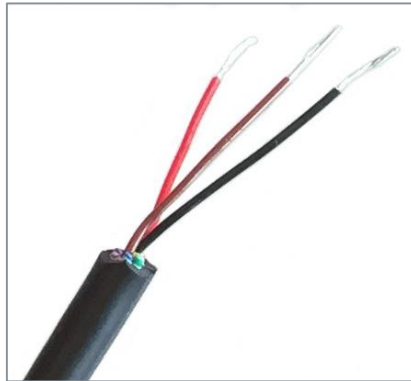

Figure 5-4: Stripped Cable Conductors
1. Strip the outer serial cable insulation back to expose the inner conductors, Figure 5-4. Only the red, black and brown conductors will be used. You may cut the remaining conductors back to end of the outer insulation to keep them out of the way.